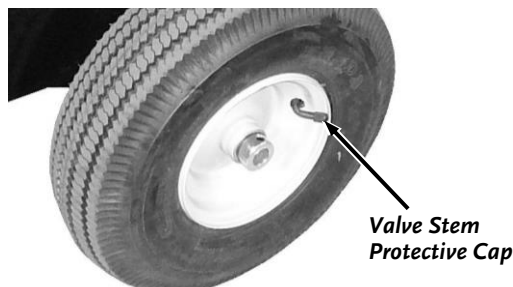

Figure 23: Yard-Tow Model Shown
1. Remove the Valve Stem Protective Cap and check the tire pressure with a Tire Pressure Gauge (**Figure 23**).